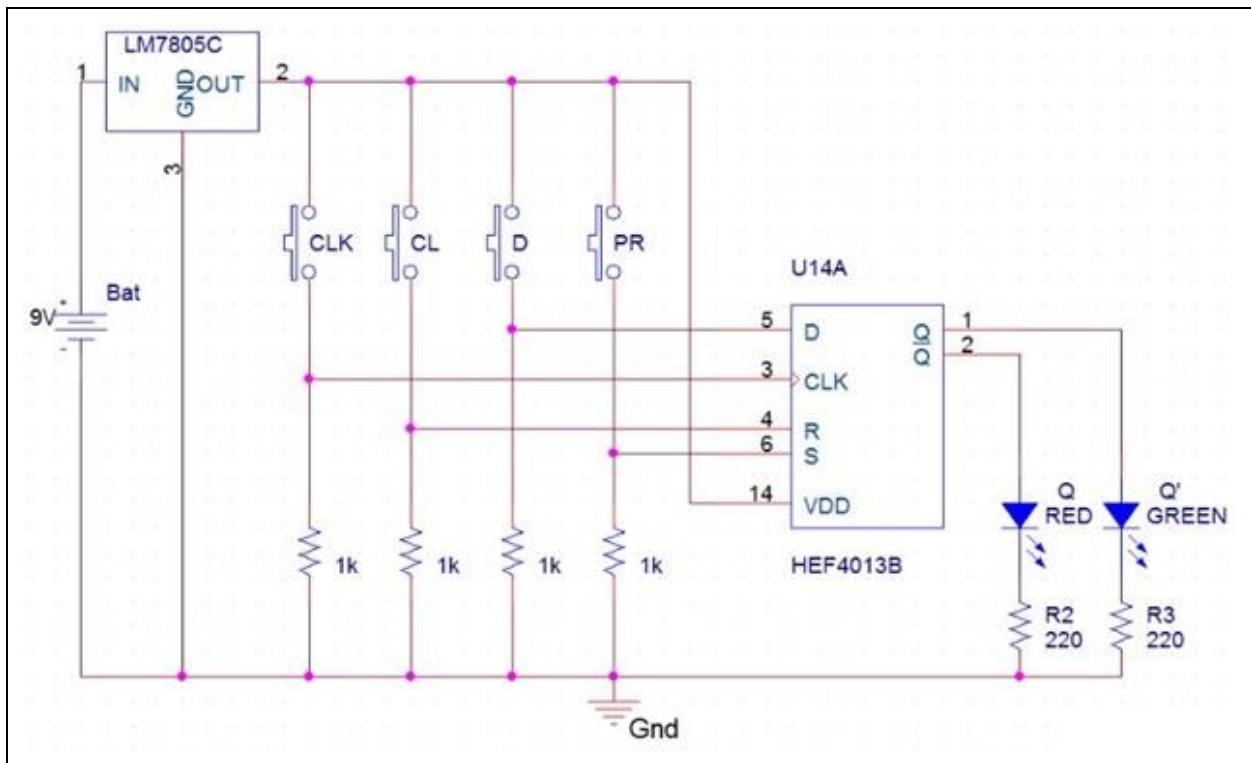

Figure 7: Circuit diagram of D Flip Flop
This circuit Diagram for SR flip flop with **HEF4013BP** IC is shown in Figure 7. IC **HEF4013BP** is used for demonstrating **D Flip Flop Circuit**, which has Two D type Flip flops inside.
1. Implement the circuit of D flip-flop with IC **HEF4013B** by looking into the schematic as shown in Figure 7.